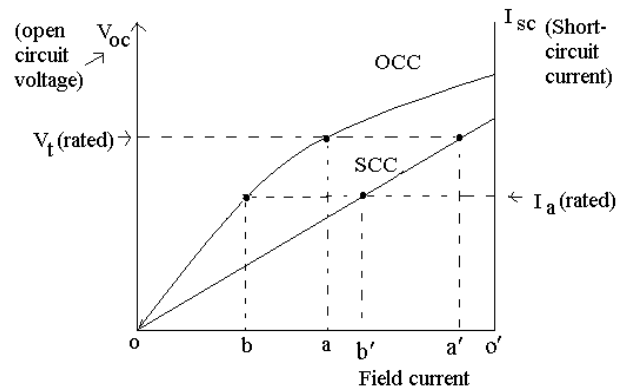

Fig.2
**Q.53** The short-circuit ratio of a typical synchronous machine is obtained from the OCC and SCC curves of Fig.2 as
- (A)  $\frac{oa}{ob}$